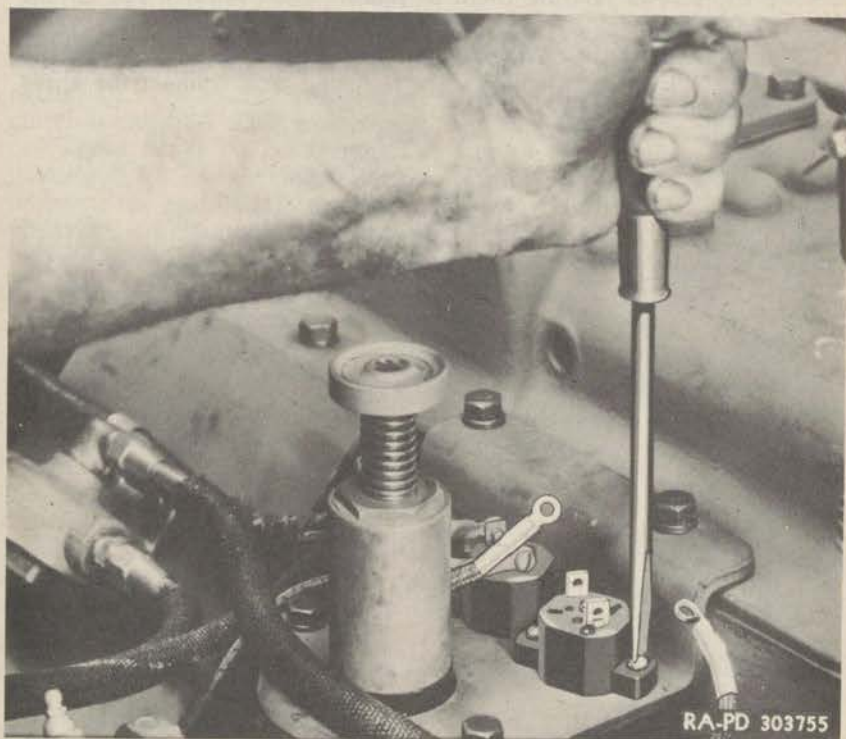

Figure 94—Removing Circuit Breaker
(2) **REMOVAL.** Disconnect the wires from the circuit breakers, and remove the screws holding them in place. Then remove the circuit breakers (fig. 94).